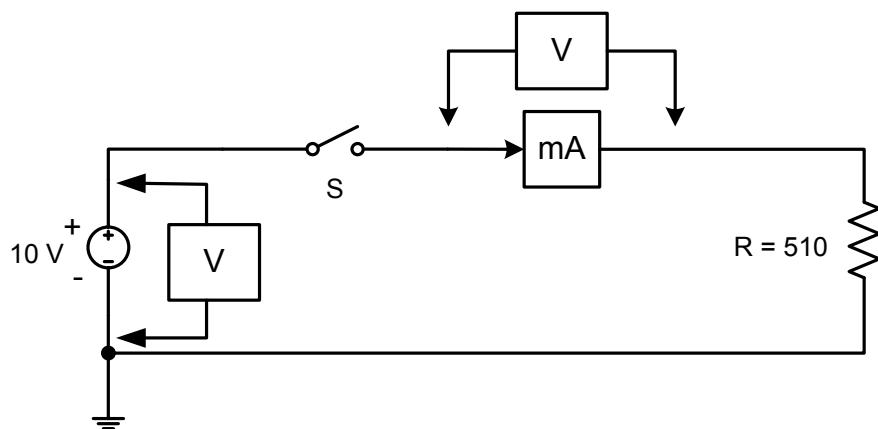

Figure 3.2
**Step 2:** Connect the circuit shown in Figure 3.2 on the protoboard, but ***do not connect the voltmeter to the circuit yet.***